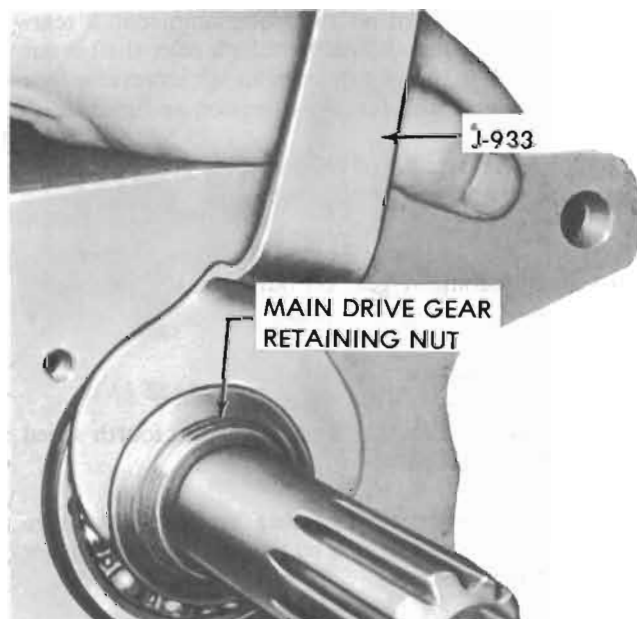

Figure 72-40 - Removing Main Drive Gear Retaining Nut
2. Remove two (2) bolt lock strips from main bearing retainer. Remove front main bearing retainer and gasket.
3. Remove main drive gear retaining nut. See Figure 72-40 using Tool J-933.